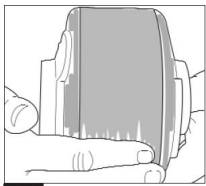
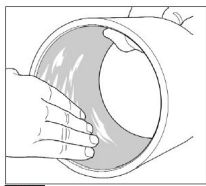
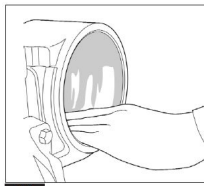

Fig 4.33
Fig 4.34
Fig 4.35
1. Apply P-80 gel solution around the pivot bush (Fig 4.33), funnel "D" (Fig 4.34) and trailing arm outer tube (Fig 4.35).